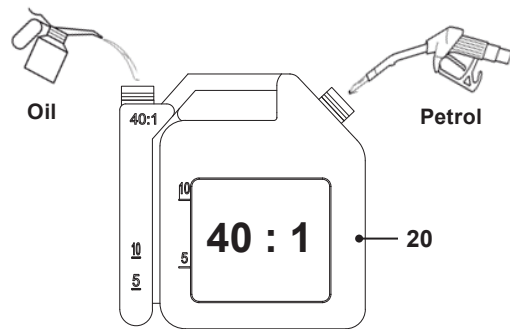

Fig. 2
1. Mix a regular-grade unleaded petrol and a quality engine oil for air cooled 2-stroke engines in the supplied fuel mixing bottle (20) (Fig. 2).